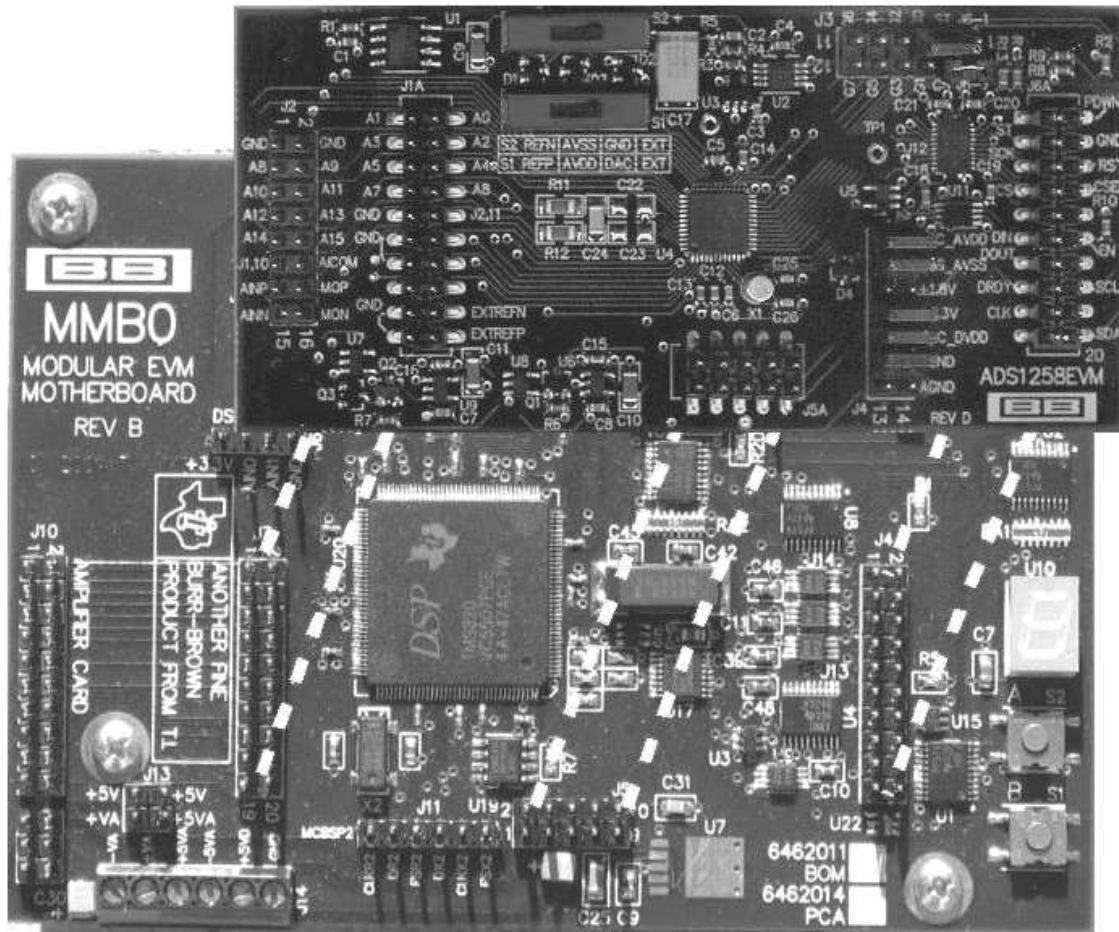

Figure 5. Connecting the ADS1258EVM to the MMB0
The GPIO connector, J3, carries the GPIO pins for the ADS1258. J3 is arranged so that GPIO0 and GPIO1 can be used to control START and $\overline{\text{CS}}$, respectively; see Figure 2 and Figure 5. The PDK firmware controls START through GPIO0. CNTL(J6-1) and FSX(J6-7) are also brought to J3, so they can also be used to control $\overline{\text{START}}$ and $\overline{\text{CS}}$. Both FSX and CNTL are pulled down, so these pins can be used to keep START and $\overline{\text{CS}}$ low if they are not to be used.
3. Plug the ADS1258EVM into the MMB0, as shown in Figure 5.